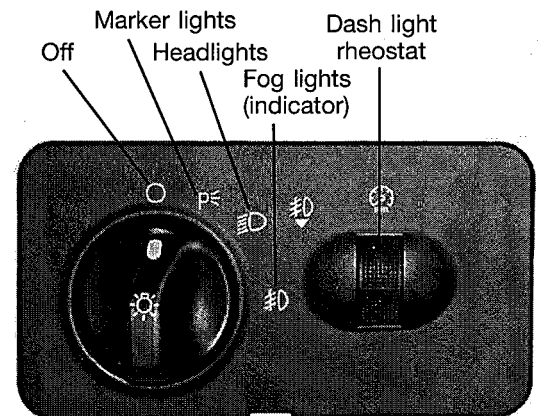

Figure 2.6
Situated in the lower left dash panel (**Figure 2.6**) is the headlight control switch. Rotate the switch to the right to the first stop to turn on the marker lights (also called courtesy or clearance lights). By turning the switch all the way to the right you activate the headlights and can, at this point, illuminate the fog lights by pulling the knob out. The dash panel instrument lights are controlled by the knurled wheel on the right side of the control unit.
- Use the dash-mounted headlight switch to turn the marker lights on and off (Figure 2.6, page 2.11). Turn the knob to the first position for the marker lights.